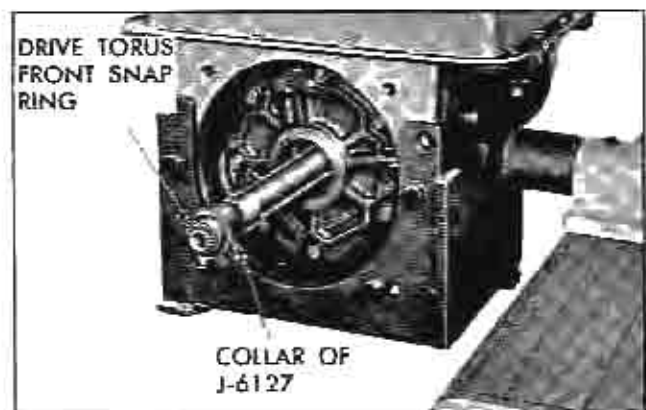

Fig. 51 Collar of Fixture J-6127 in Place Over Intermediate Shaft
1. Install collar of end play checking fixture J-6127 on intermediate shaft and secure in position by installing Truarc snap ring (Fig. 51). Attach fixture J-6127 to collar by threading collar securely into fixture.